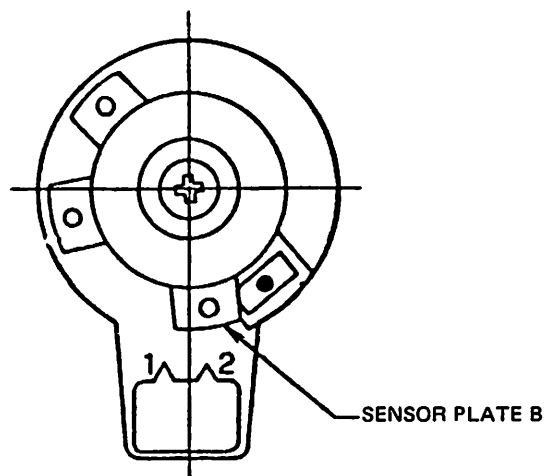

Fig. 7
3. The trimmer solenoid is energized when the sensor plate B (yellow) reaches a point shown in Fig. 7.